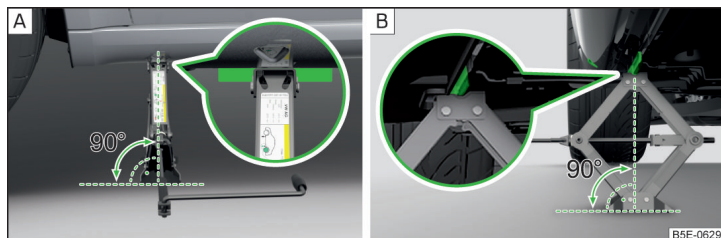

Fig. 332 Attach lifting jack
- › Support the base plate of the jack with its full area resting on level ground and ensure that the jack is located in a vertical position at the jacking point » Fig. 332 - **A**.
- › Use the crank to raise the jack until its claw encloses the bar » Fig. 332 - **B**.